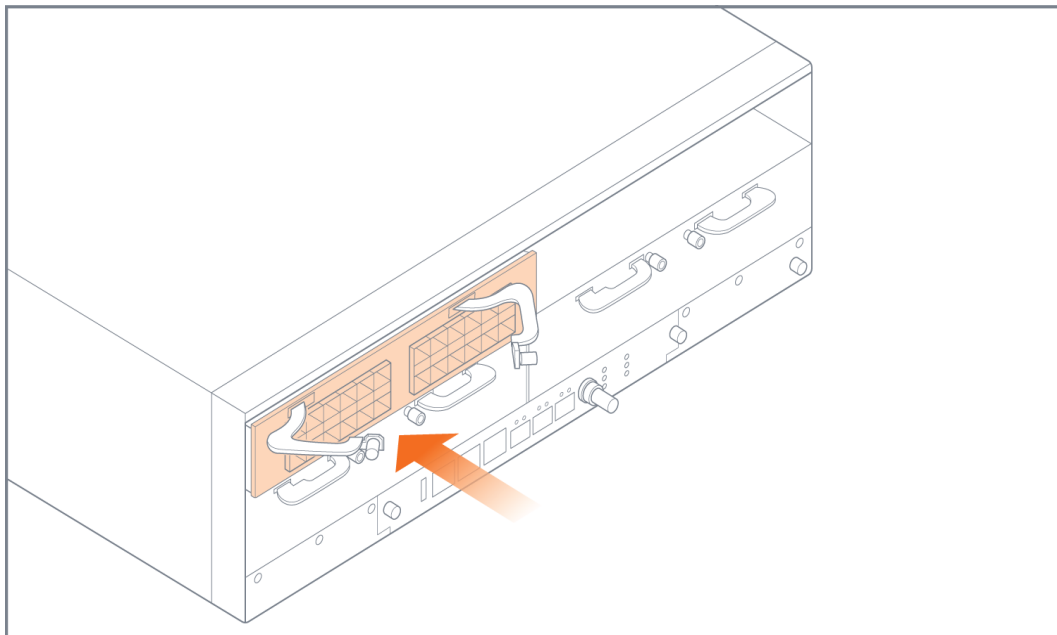

Figure 3-12: Module Insertion
2. Carefully slide the module into the bay until it mates with the mid-plane as shown in Figure 3-12 on page 66.